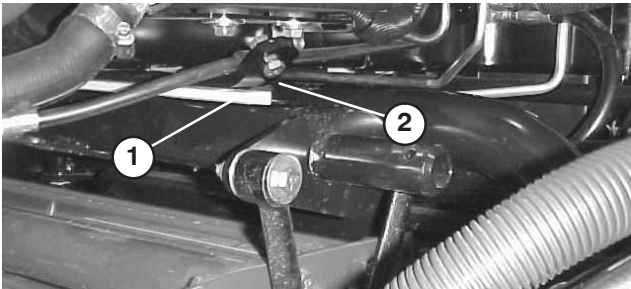
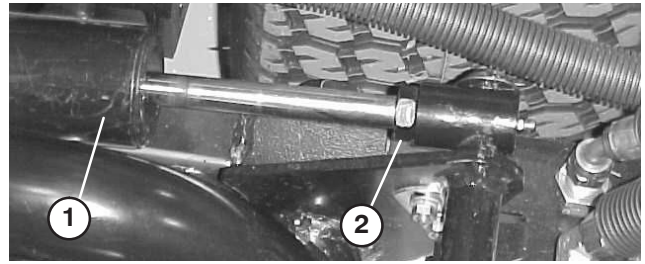

Figure 26
Figure 27
3. Start engine, raise lift arms and check to make sure clearance between wear strap on top of rear cutting unit wear bar and bumper strap is .020” – .100” (Fig. 26). If clearance is not in this range, adjust rear cylinder to attain clearance. To adjust cylinder, lower the cutting units and back off the jam nut on the cylinder (Fig. 27). Grasp cylinder rod close to the nut with a pliers and rag and rotate the rod. Raise the cutting units and check clearance. Repeat procedure if required. Tighten clevis jam nut.